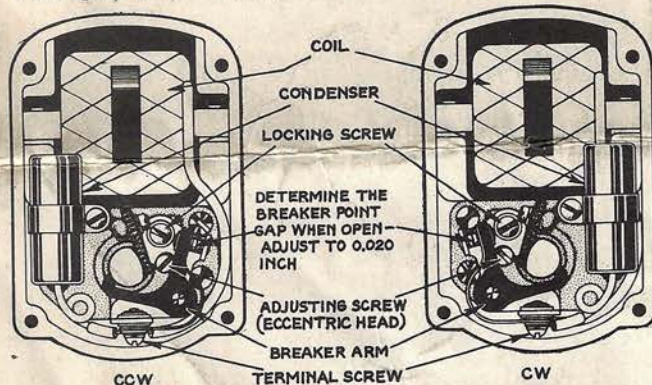

Figure 1 - End Views of Type FM-J1 Magneto
5. ADJUSTMENT OF BREAKER POINTS - If the contact points are found pitted or pyramided upon examination they should be resurfaced, using a small tungsten file or fine stone. Complete replacement, when necessary, can readily be made by removing the locking screw of the contact support bracket and the terminal screw (See Figure 1). The breaker point gap must be adjusted after either resurfacing or replacement of the points. Loosen the locking screw and turn the eccentric head adjusting screw until the proper gap is obtained. This gap should be 0.020" at full separation. The cam felt wick, if dry or hard, should be replaced by a new factory-impregnated wick.